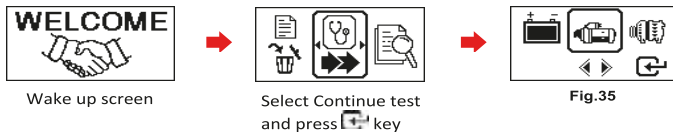

Fig.35
3. From the MENU (Fig.35), select  by pressing left using ► key followed by  key.